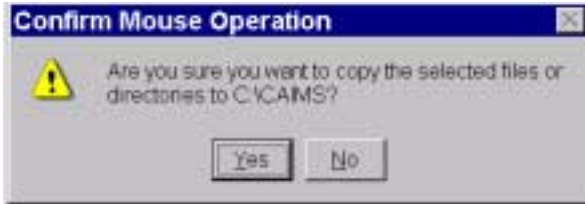

Figure 7 Confirm Mouse Operation
9. In the “Confirm Mouse Operation” window, select the “YES” button. See Figure 7.